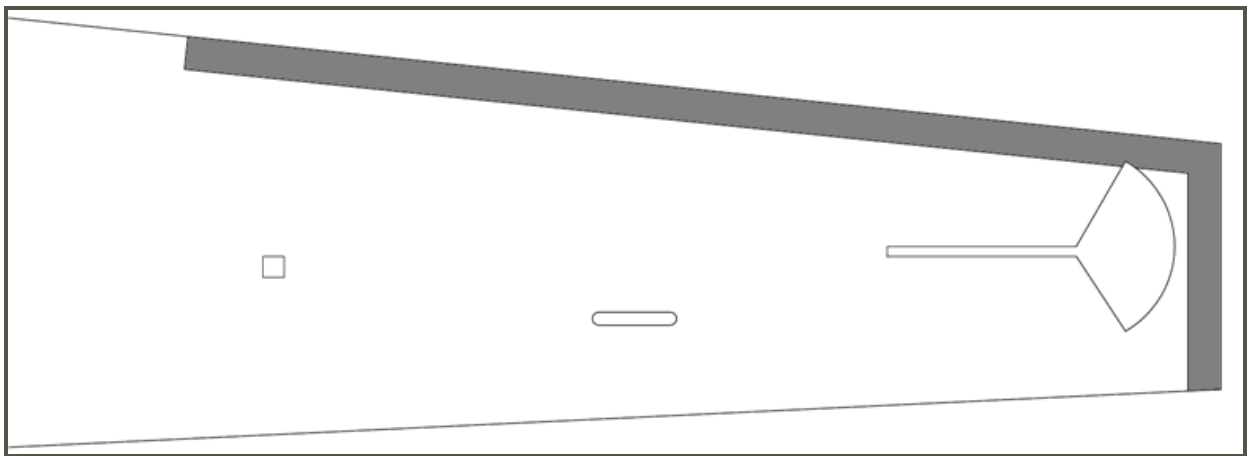

Figure 13 - Fuselage Beveling Reference
- Using sandpaper affixed to a flat sanding block, sand a slight bevel along the fuselage sides (C1 & C2) in the area marked in gray in *Figure 13*. The objective here is to increase the bonding area without making the resulting sides too thin. For the top you are aiming for a bevel that will reduce the edge of the fuselage from 2mm to 1mm gaining about $\frac{1}{2}$ " to $\frac{3}{4}$ " in depth. For the rear of the fuselage you will sand slightly less, you need to reduce the thickness from 2mm to 1.5mm gaining about $\frac{1}{4}$ " to $\frac{1}{2}$ " in depth.